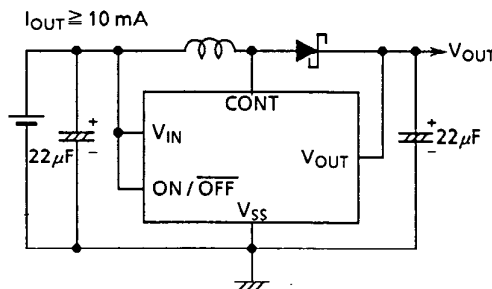

Figure 12
The difference between Figures 12 and 13 is a V_{IN} connection. The connection to be used depends on the purpose. The connection shown in Figure 12 is suitable for high output current (≥ 10 mA). The connection shown in Figure 13 is suitable for low output current ($I_{OUT} < 10$ mA) because minimum operating supply voltages is reduced. (See the supply voltage-output voltage characteristics on the next page. Use RCH855-47 μ H manufactured by Sumida Electric for the coils and D1NS4 for the external diode.)
$V_{IN} \neq V_{OUT}$ (in the circuit shown in Figure 12)
- Do not apply a supply voltage of less than 0.9 V at V_{IN} in the standard circuit shown in Figure 12. If a voltage of less than that is applied, the input current may increase rapidly. The input current may increase rapidly in the application of a low supply voltage and a low load current ($I_{\text{OUT}}=20 \mu\text{A}$) when the S-8436 series is used.